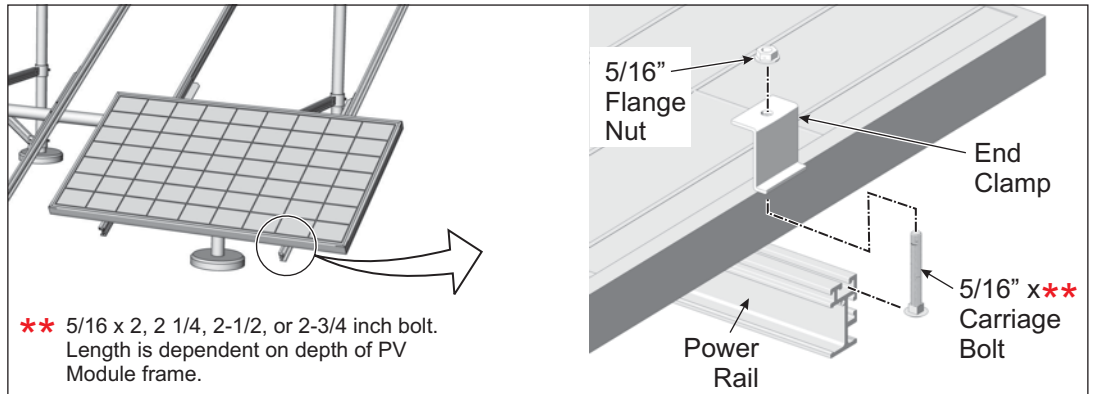

Figure 7-2: Installing PV Modules using Standard End-Clamp
- B2. For use with "**Standard End Clamps**". Insert one 5/16" x 2, 2-1/4, 2-1/2, or 2-3/4" carriage bolt into the top slot of the Power Rail. Push the bolt until flush with edge of module frame. Position end clamp with hole facing upwards and center hole over bolt. Seat end clamp over bolt flush with module frame. Thread 5/16" flange nut onto clamp and tighten. When desired alignment is obtained, tighten the nut and end clamp. **Torque End Clamps to 14-16 ft.-lbs.** (See Figure 7-2)
B3. For use with “**RAD Hardware**”. The process is much the same as in step B2 above. The difference is that RAD bolts can be inserted anywhere along the run of Power Rail, not just the ends of the rail as shown in Figure 7-2 above.